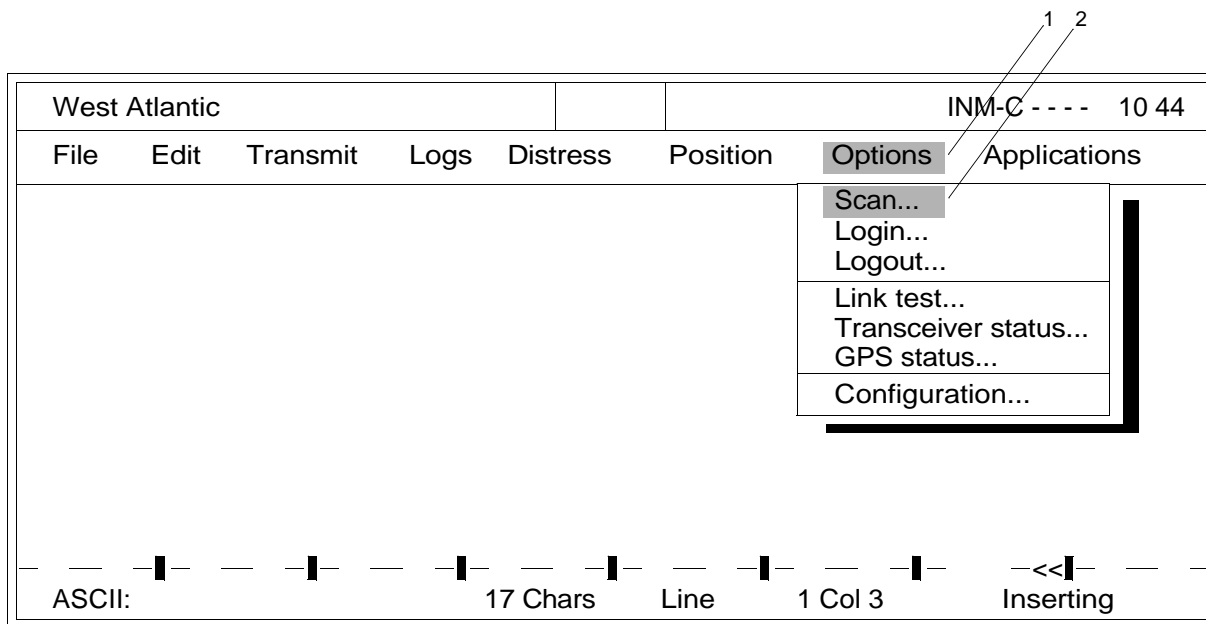

Figure 3. Options Drop-Down Menu
2. Highlight Options (figure 3, item 1) from the drop-down menu.
4. Highlight Scan (figure 3, item 2) from the drop-down menu.